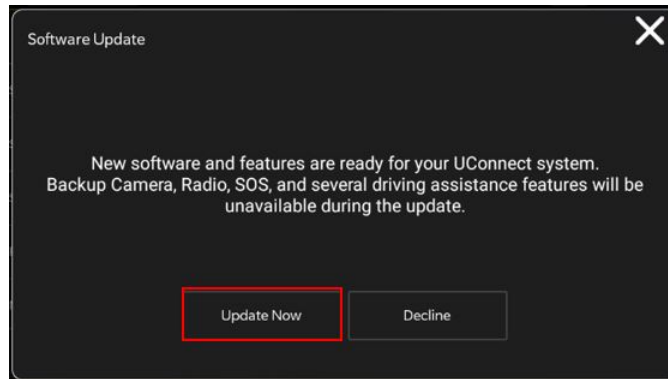

Fig. 3
14. Once the system has verified there is an available update, press the “Update Now” button. Make sure the vehicle is in park. **Do NOT turn the ignition off until the two minute timer has expired. The ignition doesn't have to be turned off to update the radio's software Fig. 3.**